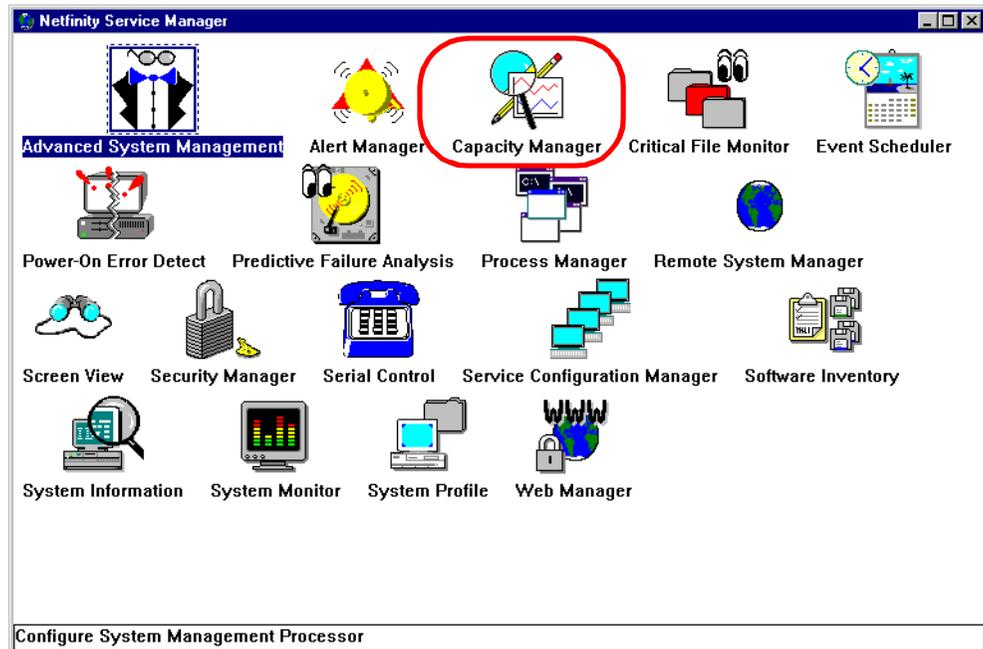

Figure 115. Capacity Manager Icon
After you install Capacity Manager, a new icon appears in the Netfinity Manager window as shown in Figure 115:
1. From the Netfinity Manager main window (Figure 115 on page 156), double-click **Remote System Manager**.